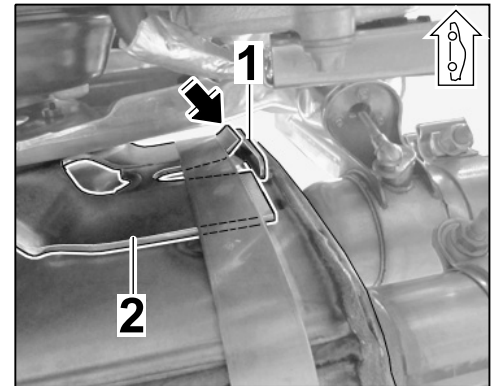

Figure 19
- 5.9 Position main muffler with lock ⇒ *Figure 19*
-1- on the main muffler holder ⇒ *Figure 19*